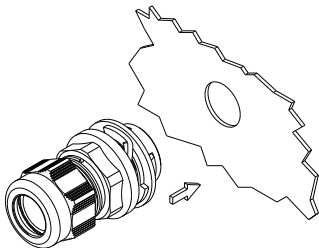

Figure 1
1. Insert cable gland in clearance or threaded hole (Figure 1).